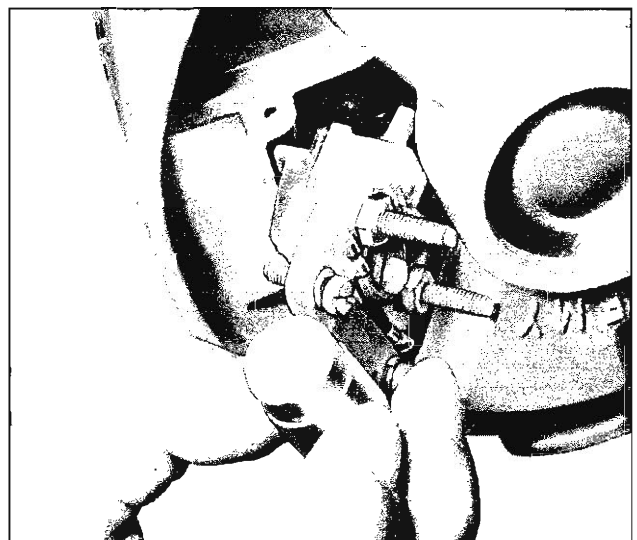

Fig. 23—Brush Holder Removal and Installation
4. To install, push brushes up into holder and loop the brush leads over the catcher (fig. 23) to keep the brushes in the holder. Attach the assembly to the end frame and lift the brush leads off the catcher to allow brushes to ride on slip rings.